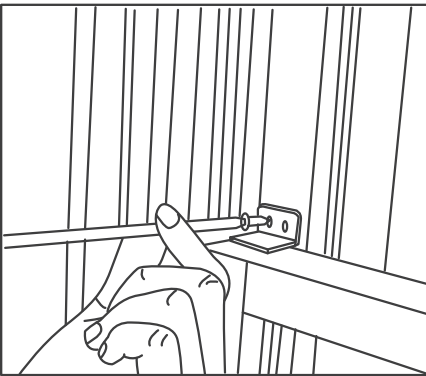

Fig.11
- 6** To secure lower sash in place, attach right angle sash lock with 3/4" (19 mm) screw as shown (Fig.11).